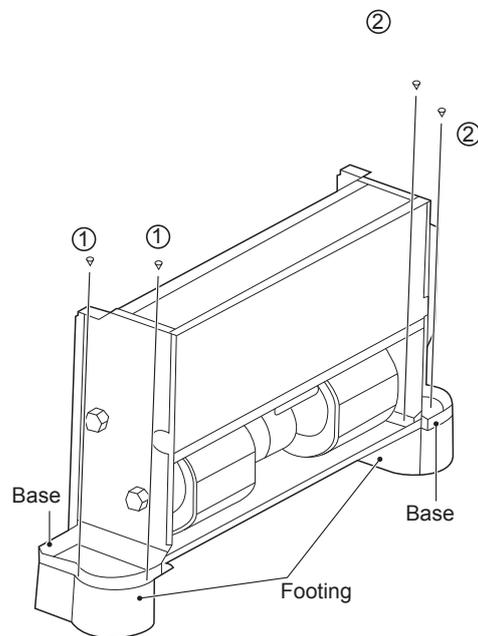

Figure 5-3
The footings shown in Figure 5-3 are optional. You can purchase them separately and install them as follows:
2. Place the mounting holes on the unit base into the corresponding footing locating pin and install screws ① *2 and ② *2 to fix the footing according to Figure 5-3.